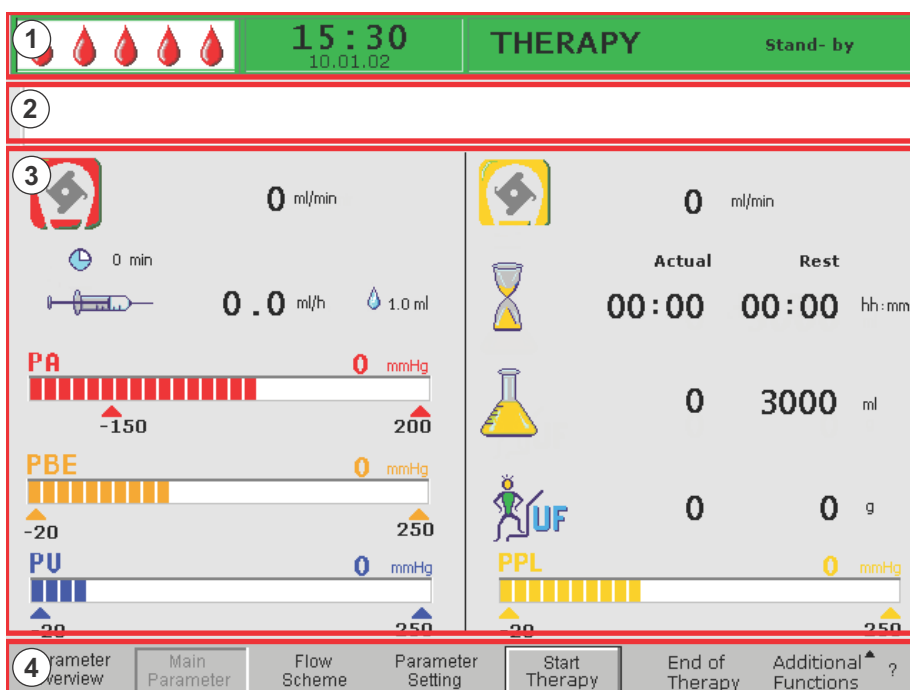

Fig. 2-10 Monitor layout
The **status bar** (Fig. 2-10, ①) indicates:
When an alarm occurs, the screen display automatically changes to the Flow Scheme. A corresponding message is displayed in the Alarm/Note line (Fig. 2-10, ②).